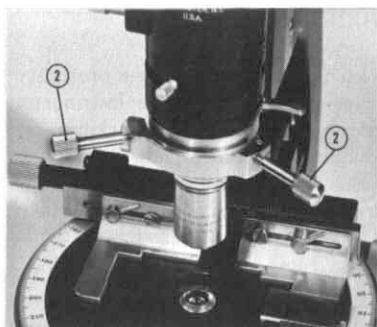

Figure 5
ment should not be disturbed. Use any eyepiece equipped with a cross hair, and place the objective on the microscope as described in the preceding paragraph. Two small keys are provided for turning the centering screws. Place these on the centering screws Fig. 5 (2) and focus on some object, such as a rock section. Rotate the stage and notice what point in the specimen stands still. There is always some point in the specimen which coincides with the axis of the stage,